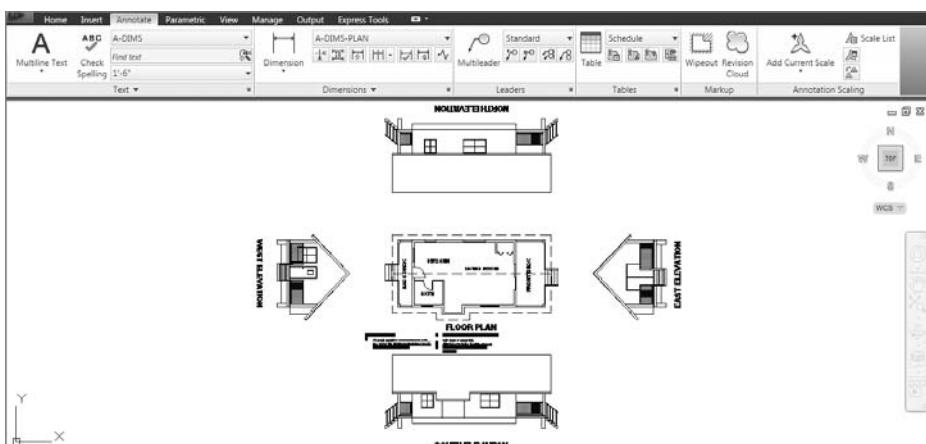

FIGURE 12.1 The cabin floor plan and elevations with the Annotate panels at the top of the drawing area
6. Click the Annotate tab. Your drawing will look like Figure 12.1.